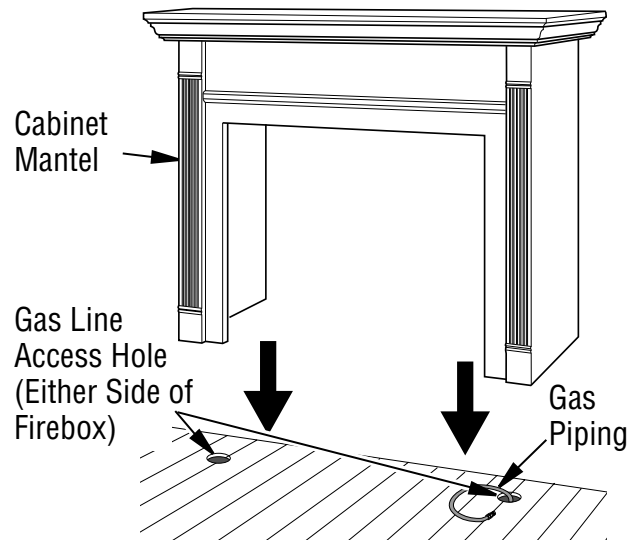

Figure 11 - Installing Cabinet Mantel (Mantel May Vary From Illustration)
2. Install gas piping to firebox location. See ***Gas Line Installation*** on page 14. You may have to cut an access hole in the floor or wall to run gas line to firebox. Make sure to locate access hole so cabinet mantel will cover it when installed (see Figure 11).